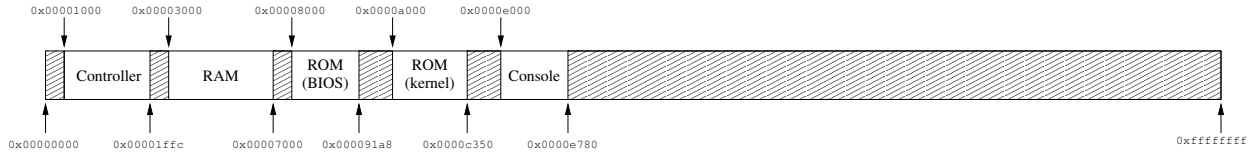

Figure 1: An example placement of devices in the physical address space.
- **Read Only Memory (ROM):** Memory units with pre-assigned contents that cannot be altered. On our simulated system, each ROM is defined by a file in the host (non-simulated) system. The size and contents of that file are taken as the size and contents of the ROM. A system may have many ROMs. By convention the first ROM is taken as the *Basic Input/Output System (BIOS)*. Consequently, the program counter (IP) in the CPU resets to the starting address of the first ROM on the assumption that it contains the first instruction for bootstrapping the system.
The device table: The bus controller provides a window into the placement of bus devices into the physical address space. Each device has a *type* (controller (1), ROM (2), RAM (3), etc.), and each device has physical *base* (the address of first valid byte to which that device responds) and *limit* (the address of first byte **after** the **last** valid byte to which the device responds). The controller provides access to a *device table* that contains this information for every device on the bus. The devices are typically laid out in the physical address space as shown in Figure 1.
The bus controller is always loaded into the physical address space with a base of `0x00001000`—the address of the first byte in the physical address space. This address is also the start of an array of values, where each sequential triplet of words is, respectively, the *type*, *base*, and *limit* of a bus device. For example, the set of devices shown in Figure 1 would yield the following device table: